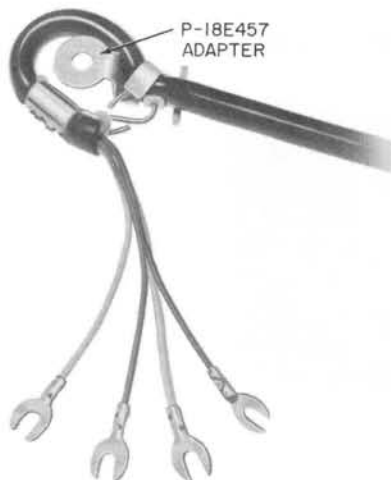
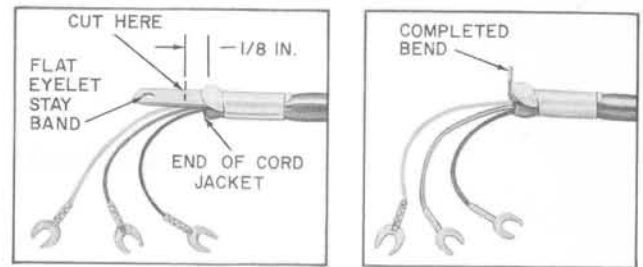

Fig. 1—D4BP Cord With Adapter
Fig. 2—Connecting Current Model D3BU or D4BP Cord To Early Model 505A Plug
2.11 The early D3BU or D4BP mounting cord is equipped with a P-18E457 adapter which is intended for use as a universal fastener. Fig. 1 through 7 show some of the suggested uses of these fasteners. The current D3BU or D4BP cord is equipped with a flat eyelet stayband at the connecting block end (Fig. 2).